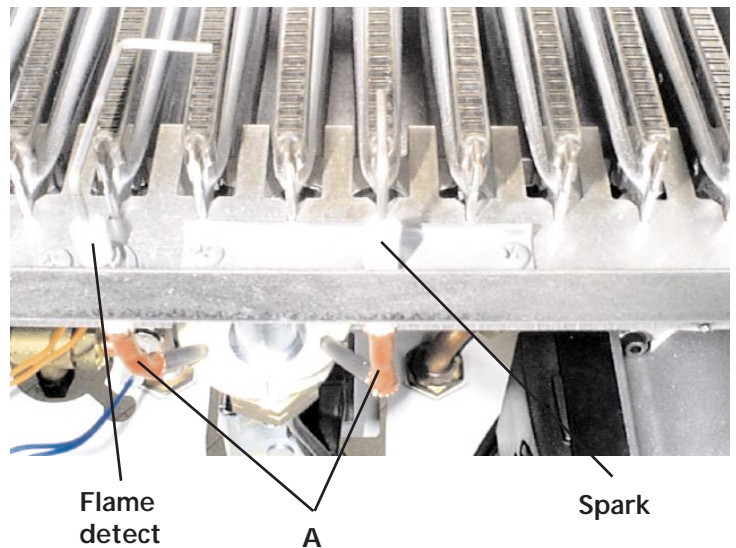

Fig. 38
## 7.12 Spark or flame detect electrode (fig. 38)
- Identify electrode from fig. 38